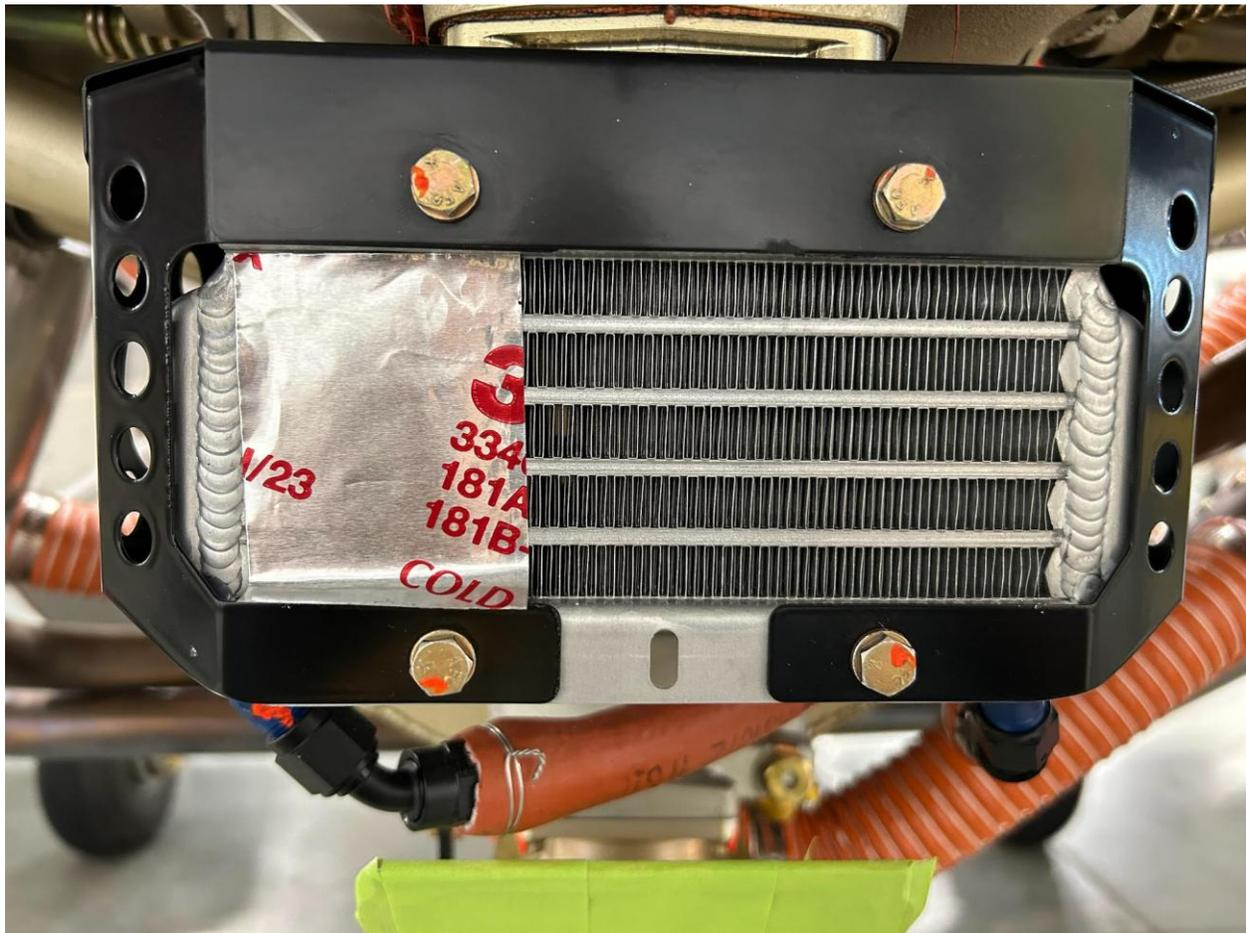

Figure 1.
4. Apply speed tape (such as 3M Mfr#7100053741) in a vertical direction to cover the applicable oil cooler surface area. Reference Figure 1 for a typical installation.